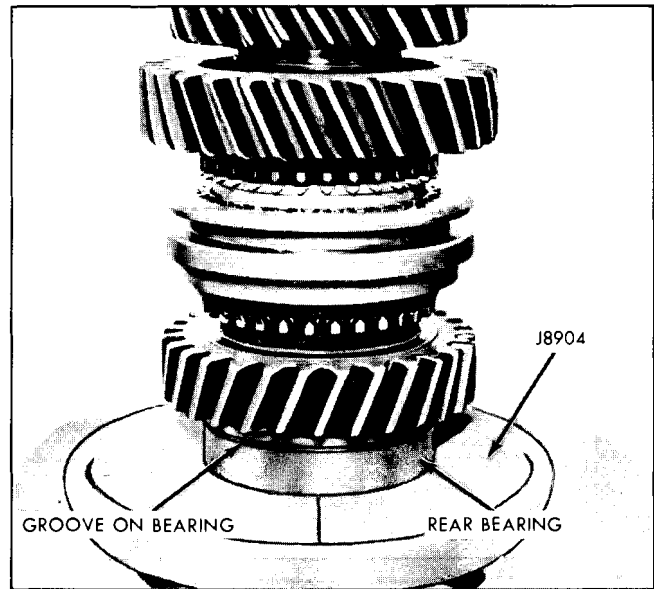

Fig. 7A-31 Installing Rear Bearing
2. Install 1st speed gear, 1st speed blocker ring and synchronizer assembly on mainshaft (Fig. 7A-30). Using hydraulic or arbor press and Press Plate J 21858, press 1st speed gear and synchronizer assembly onto mainshaft. Install retaining snap ring.